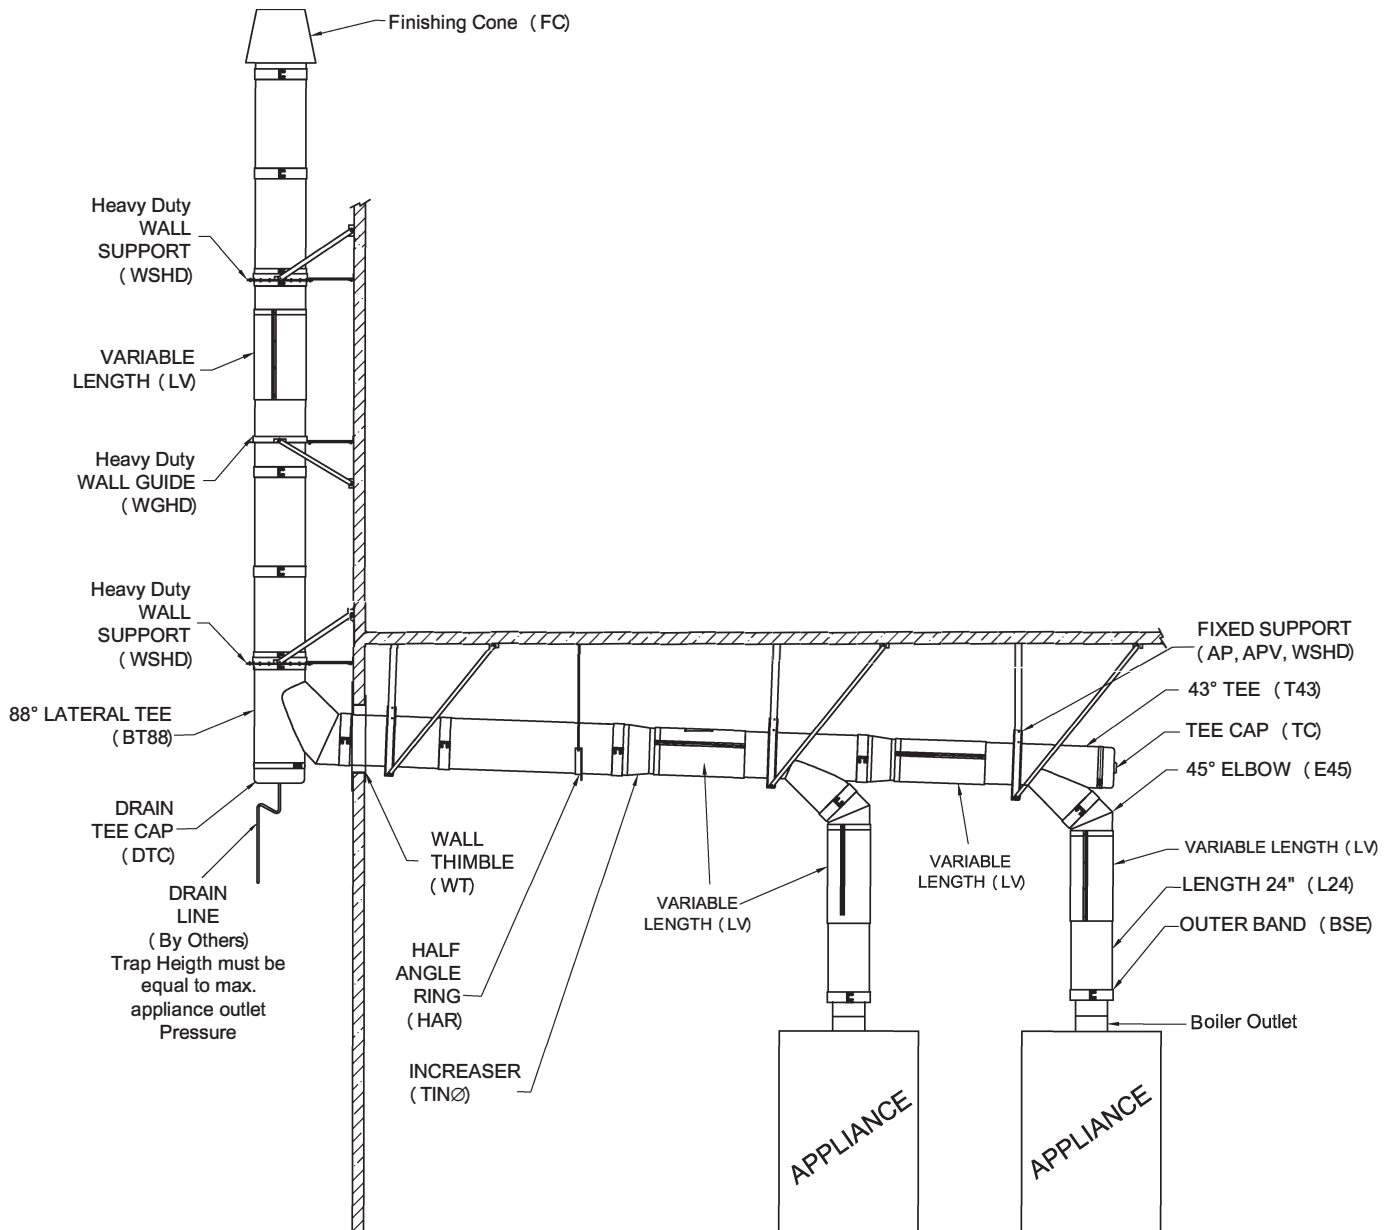

Figure 5- Typical installation for CAX1-(BC)
- CAX1-(BC) offers a range of tees and elbows that are built incorporating a 2 degree slope, we recommend that you use these to generate your slope.
- Remember, if you raise the appliance or lower the ceiling you must adjust the slope of the vent to maintain the 1/4" per foot minimum. See Figure 5 & 26.